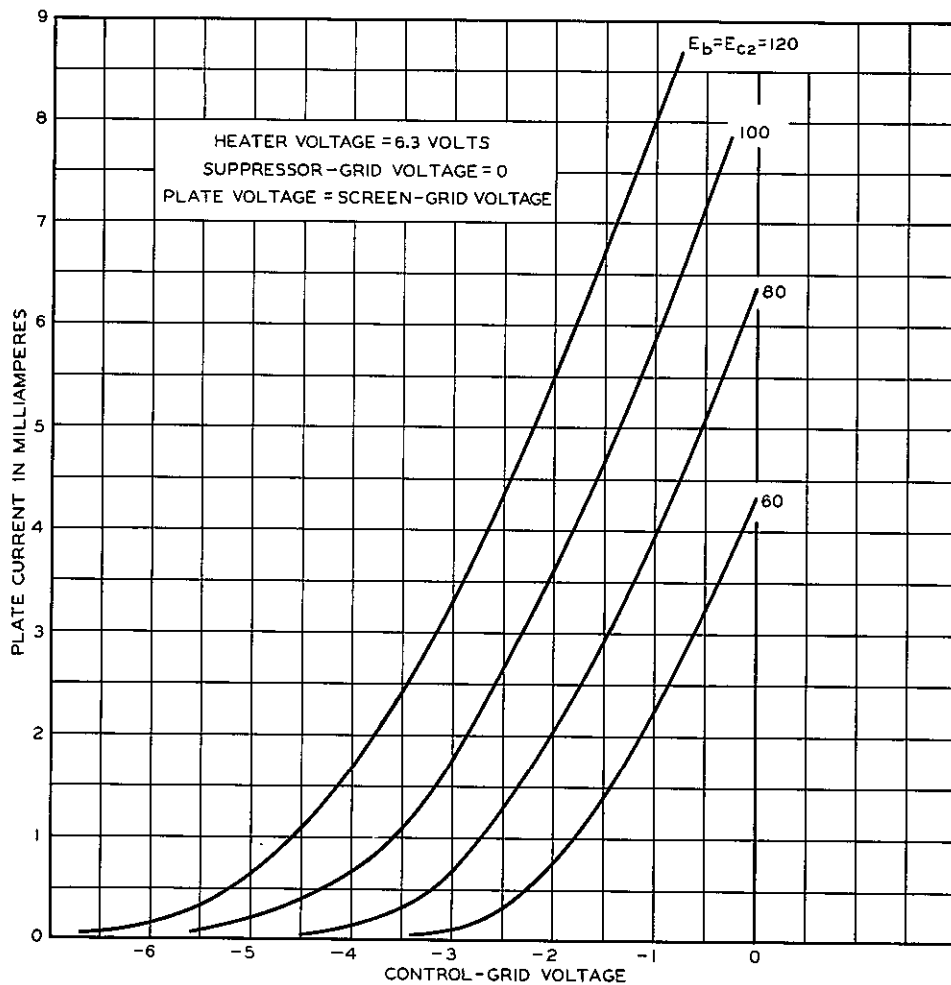
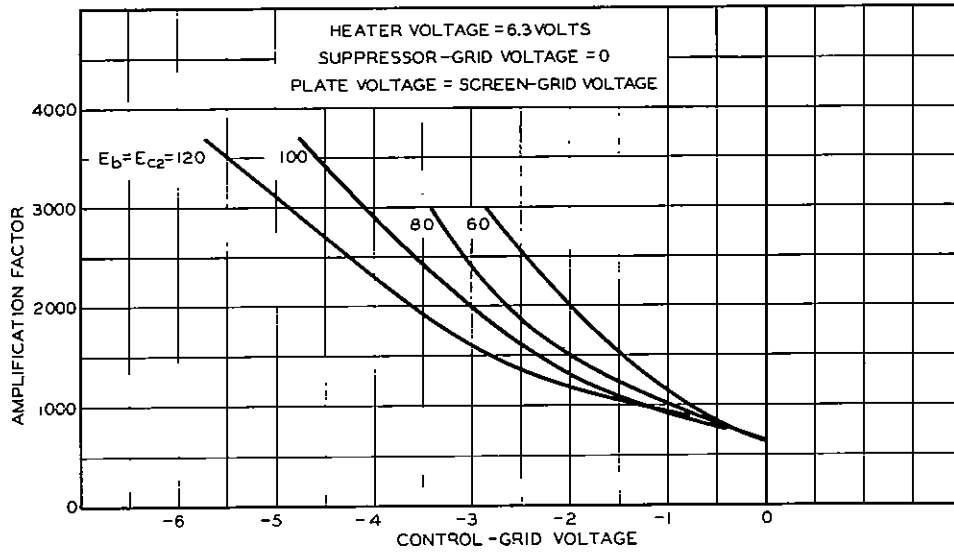
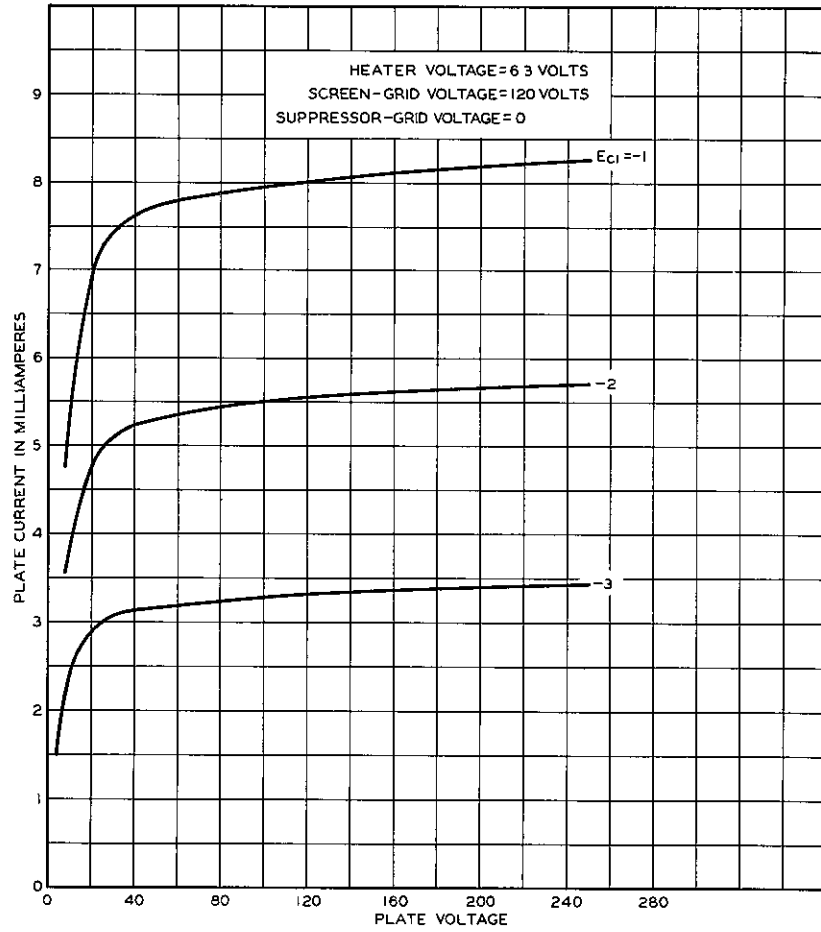
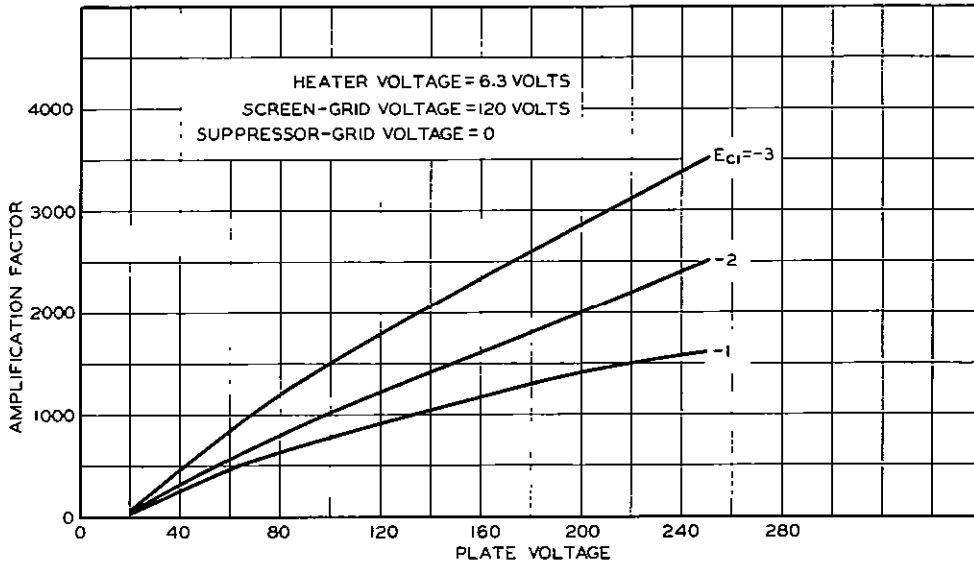

FIG. 5
FIG. 7
FIG. 10
FIG. 12
**Characteristics**—Figures 5 and 6 show plate current and screen-grid current characteristics of typical tubes as functions of control-grid voltage for several values of screen-grid and plate voltage and zero suppressor-grid voltage. The screen-grid voltage for these characteristics is equal to the plate voltage. Figures 7, 8 and 9 show corresponding amplification factor, plate resistance, and transconductance characteristics. Figures 10 and 11 show plate current and screen-grid current characteristics as functions of plate voltage for three values of control-grid voltage, a screen-grid voltage of 120 volts, and zero suppressor-grid voltage. Figures 12, 13 and 14 show corresponding amplification factor, plate resistance, and transconductance characteristics.